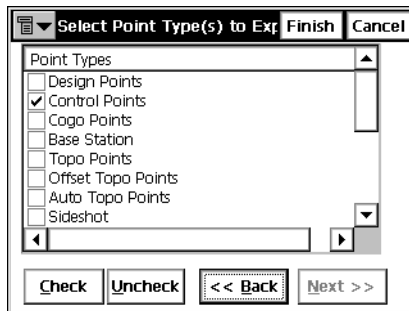

Figure 5-15. Select Point Type(s) to Export
- If *By Type*, or *By Type, Range and Code* was selected in the *Points* drop-down menu, the *Select Point Type(s) to Export* screen displays. On this screen, select the types of points to be exported (Figure 5-15).